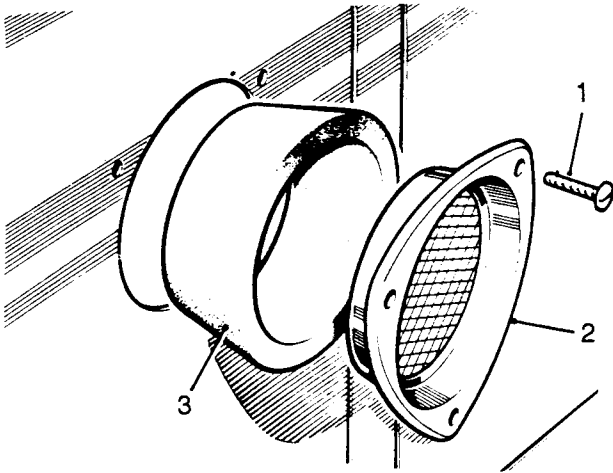

Fig N3.14
- (1) Refer to Fig N3.14. Remove the fixings (1).
- (2) Withdraw the intake grille assembly (2).
- (3) If required, withdraw the air inlet seal (3).